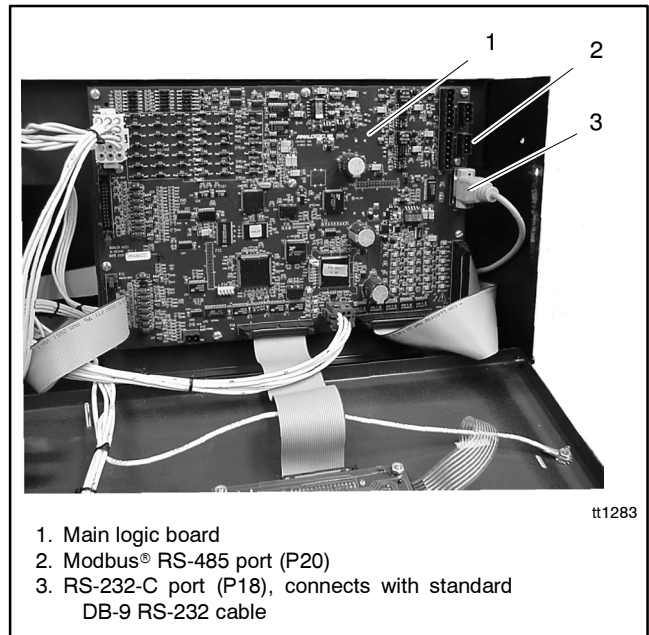
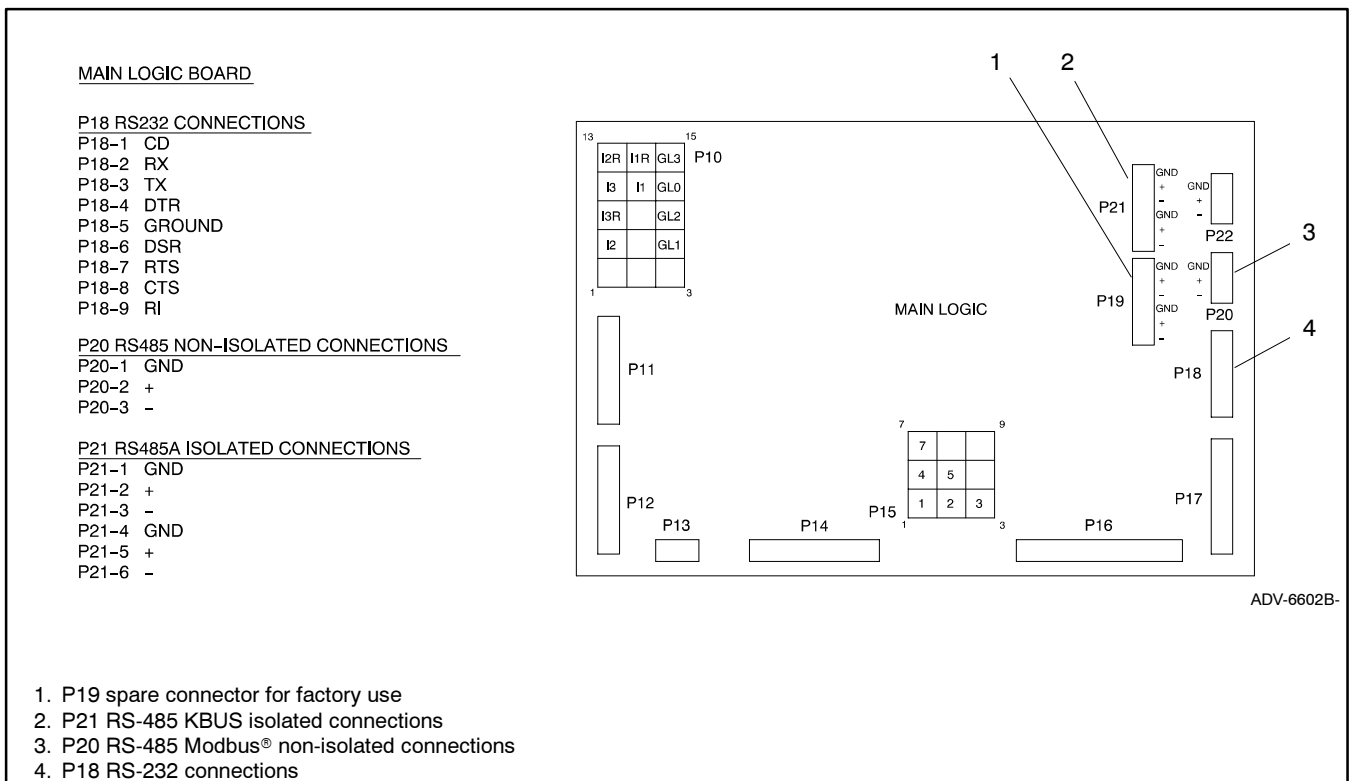

Figure 1-6 Communication Port Locations for the Decision-Maker 550 Generator Set Controller
Figure 1-7 Communication Connections Pin Identification
5. Open the enclosure and locate the connection ports as shown in Figure 1-6 and Figure 1-7.